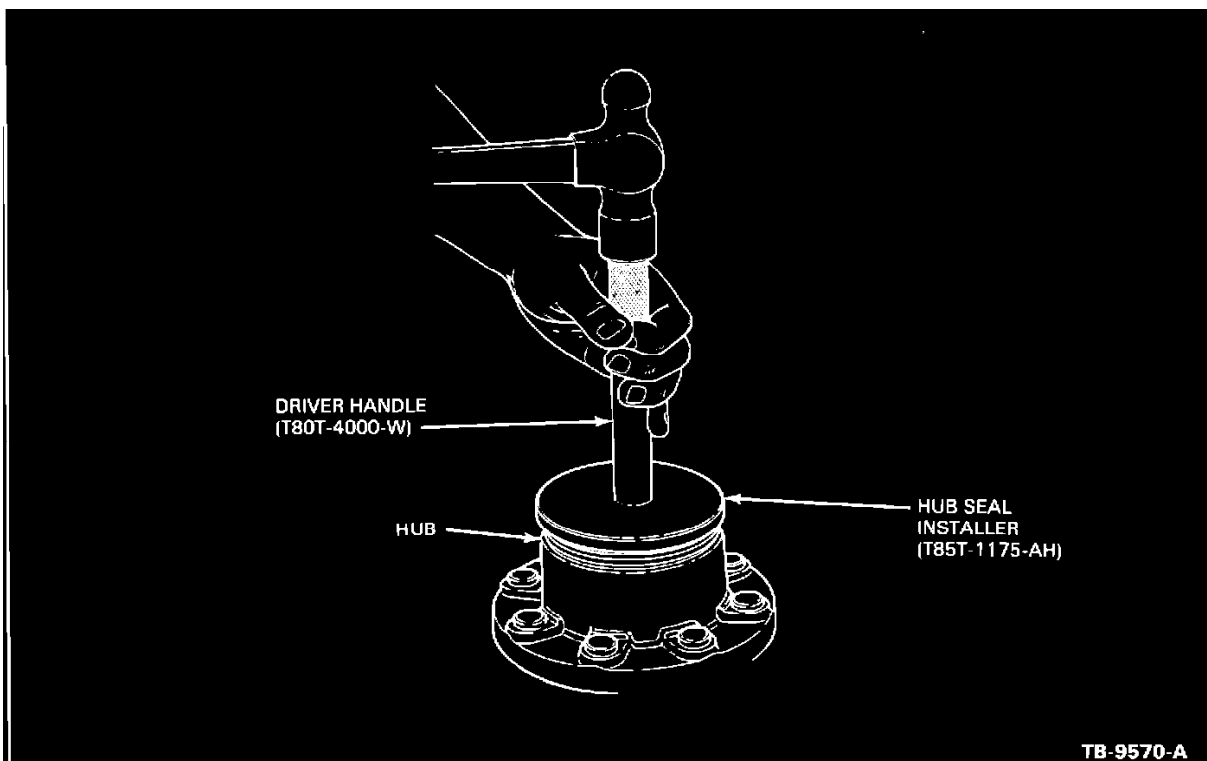

FIGURE 15
4. Hold tool straight and strike handle until hub seal is fully seated, Figure 15.